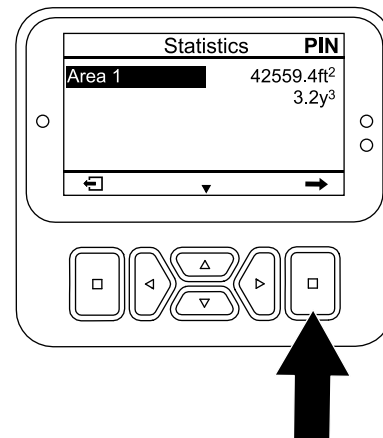

Figure 98
1. In the STATISTICS screen, press the down button until the AREA 1 option is selected (Figure 98).